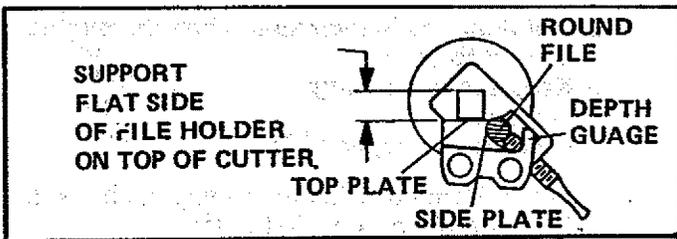

Figure 36
- Support flat side of file holder (with $7/32$ " round file) on cutter top plate. Figure 36.